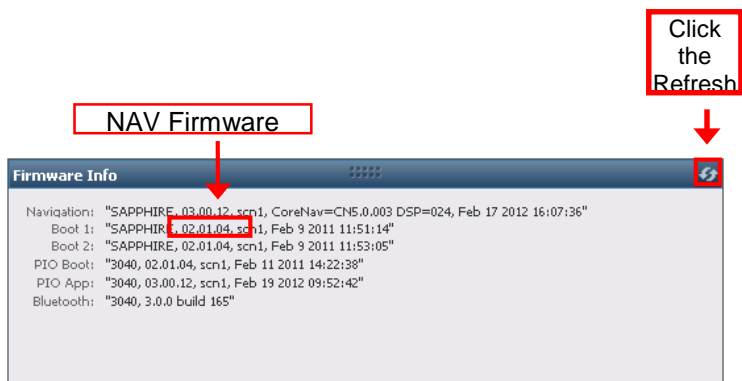

Figure 8: Example of Installed Firmware
20. Click  (refresh) on the *Firmware Info* window to view the current output data (see Figure 8).
56. Check the *Firmware Info* window (see Figure 8) to view the current versions of all uploaded firmware.